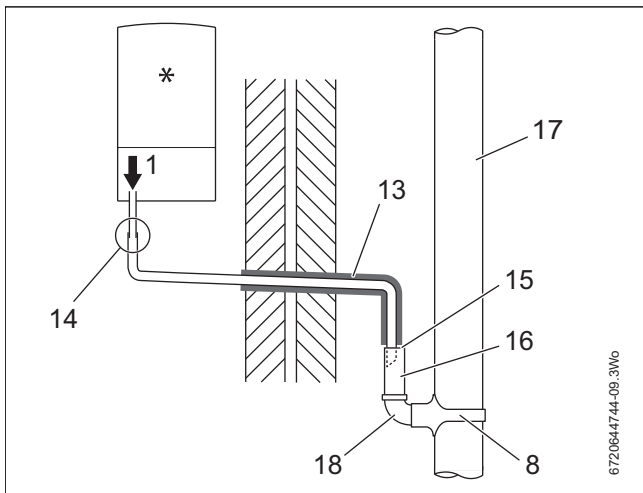

Fig. 10 Disposal into a rainwater down pipe
Continued - Key to condensate illustrations, figures 10, 11, 12 & 13
- Refer to figure 10 when a rain water down pipe is used to dispose of condensate.